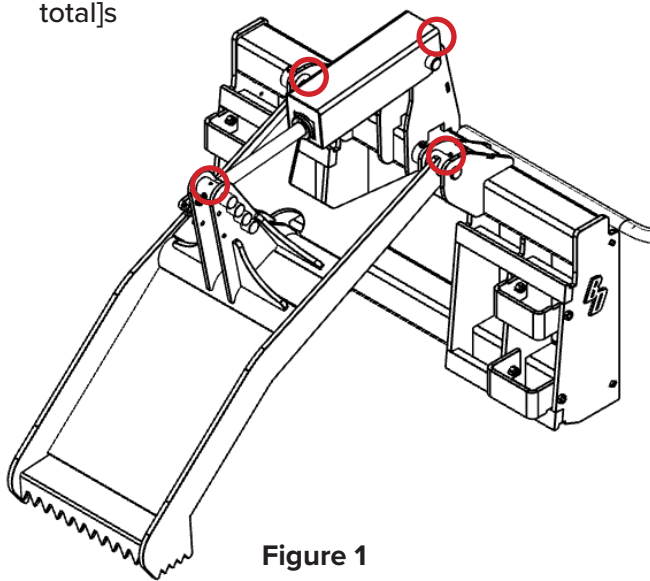

Figure 1
The Mat Grapple has four (4) grease points [Figure 1].
- One on each end of the cylinder [two (2) total]
- One on each pivot point of the clamp [two (2) total]s